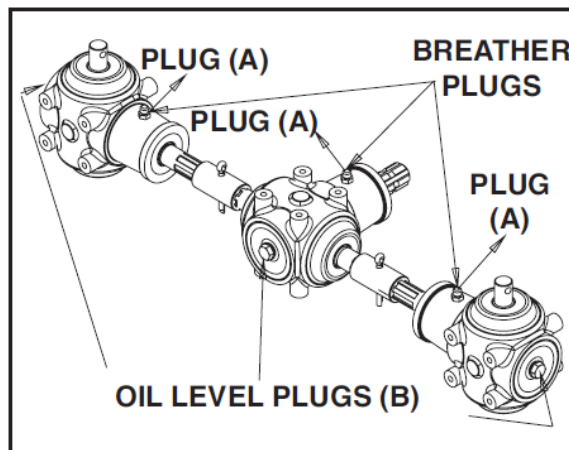

Fig. 17
- Remove plugs (A) from the gearboxes and replace them with breathers (Fig. 17).
- Check the oil level in the gearboxes. To do so, place the implement on a level surface and remove the oil plugs (B) to inspect. The gearboxes must be filled with oil to the level of the plugs (B).